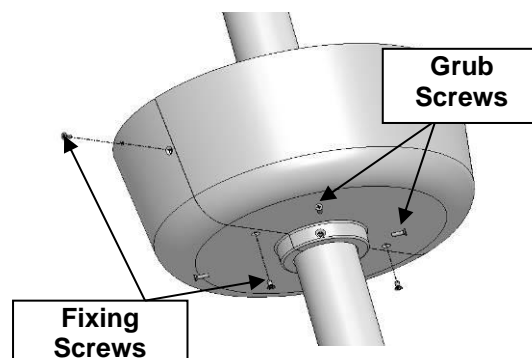

Figure 28
- Slide the now assembled cover up to the false ceiling or ceiling slab, or wall, depending on Version Using the 3 grub screws provided, screw into the collar until secure. See Figure 28